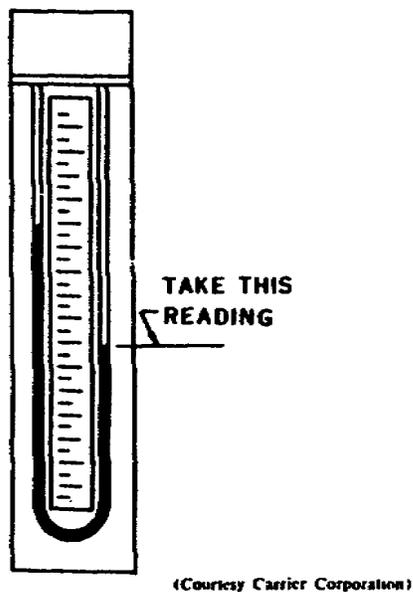

Figure 32. Absorber manometer.
2. **Checking Vacuum.** Before starting the machine, you should check it to see if air has leaked into the unit while it was shut down. Open the valve in the line from the absorber to the manometer and determine the pressure in the machine. Figure 32 illustrates a manometer reading. Take the temperature of the machine room and locate the corresponding pressure on the chart in figure 33. If the pressure reading in the machine is more than 0.1 inch of mercury higher than the pressure located on the curve, then there is air in the machine. This should be noted on the daily log sheet. If the condition recurs on the next two or three startups, the machine should be shut down as soon as possible and tested for leaks. Air leakage will cause corrosion inside the machine, and over a period of time will result in serious trouble and shorten the life of the equipment.